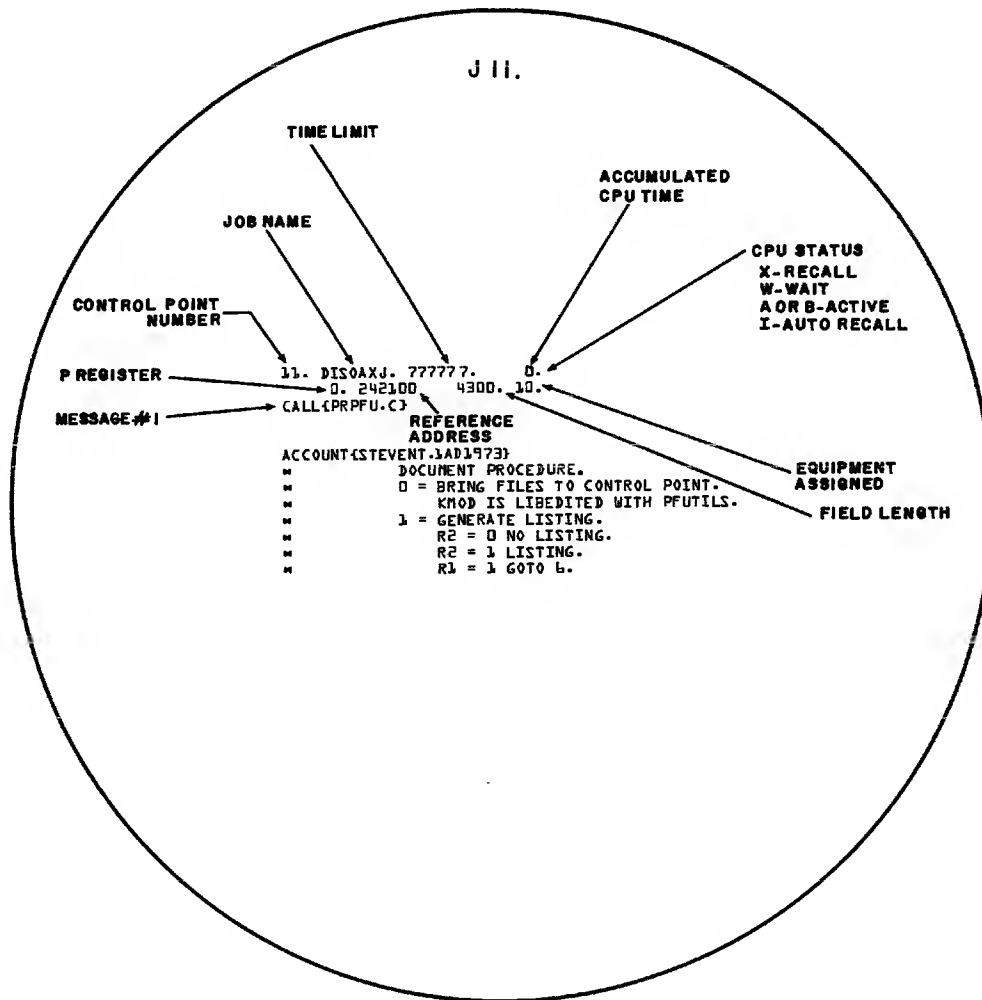

Figure 4-8. Control Point Status (J) Display
Figure 4-8 illustrates the control point status (J) display.